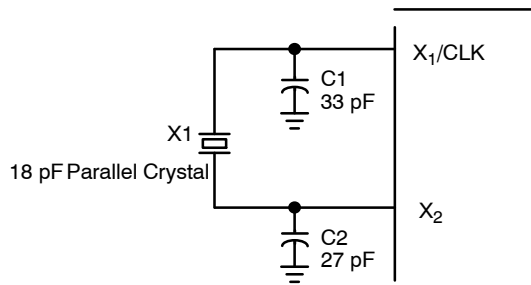

Figure 7. Crystal Input Interface
- The crystal should be fundamental mode, parallel resonant. Do not use third overtone. For exact tuning when using a crystal, capacitors should be connected from pins X1 to ground and X2 to ground. The value of these capacitors is given by the following equation, where CL is the specified crystal load capacitance: Crystal caps (pF) = $(CL-5) \times 2$. So, for a crystal with 16 pF load capacitance, use two 22 pF caps, including board trace capacitance (see Figure 7).